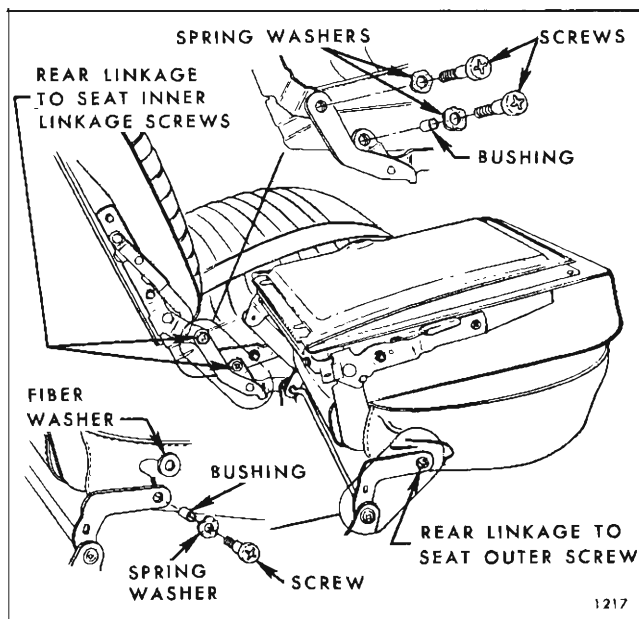

Fig. 2H31—Floor Pan Rear Linkage
3. Remove seat inner linkage-to-seat back panel and seat cushion frame attaching screws (see Fig. 2H30); then, disengage and remove side linkage from seat.